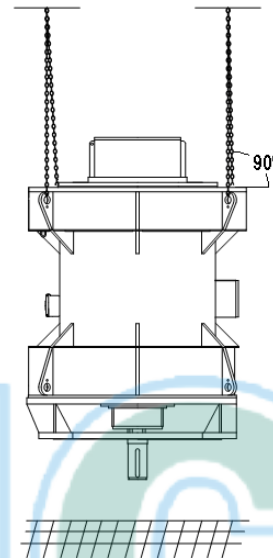

Figure 3.1: Motor handling
- Vertical motors must be handled as shown in Figure 3.1;